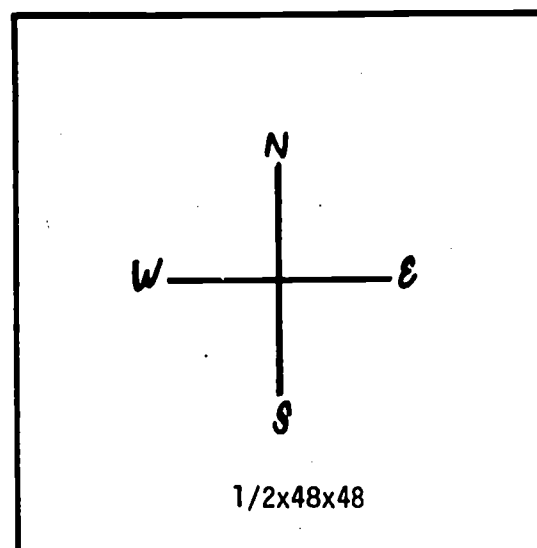

Fig. 11-2. Site Board
4. On the 48" x 48" plywood sheet locate the exact center. Draw two short intersecting lines through this point, parallel to the edges, to represent compass directions. Label them N, E, S, W. See Fig. 11-2.